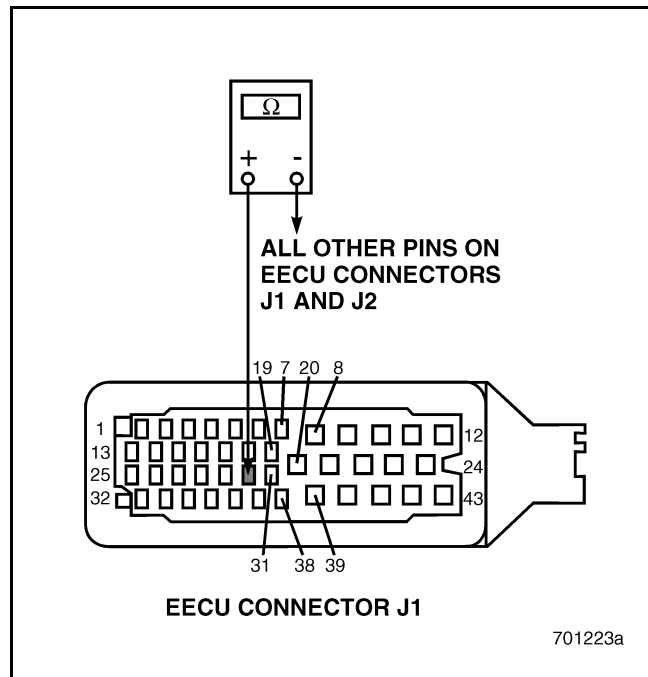

Figure 356
3. Check for continuity between EECU connector J1 pin 30 and all other pins on EECU connectors J1 and J2 (see Figure 356).